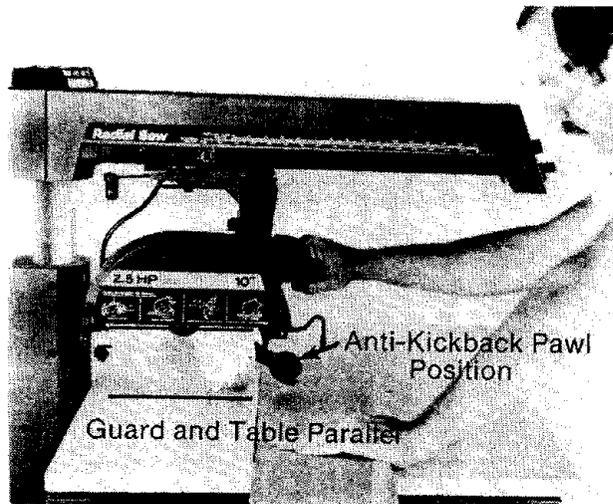

Fig. 94 - Crosscut Blade Guard and Body Position
**WARNING:** To reduce the risk of contact with the upper half of the blade and keep the workpiece from jamming in the guard, set the blade guard in the horizontal position. Fig. 94.
⚠ WARNING: The blade guard must be horizontal to provide protection from contact with the upper half of the blade and avoid the workpiece being jammed in the blade. Set the blade guard in the horizontal position. Fig. 94.